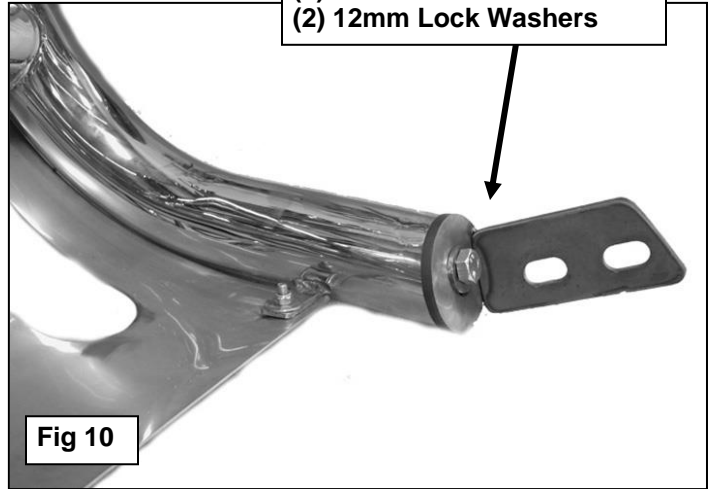

Fig 10
13. Select the driver side Bull Bar Mounting Bracket. Bolt the Bracket to the end of the tube on the Bull Bar using (1) 12mm x 50mm Hex Bolt, (1) 12mm Lock Washer and (1) 12mm Flat Washer, **(Figure 10)**. Snug but do not tighten hardware at this time. Repeat this Step for passenger side Bull Bar Bracket installation.